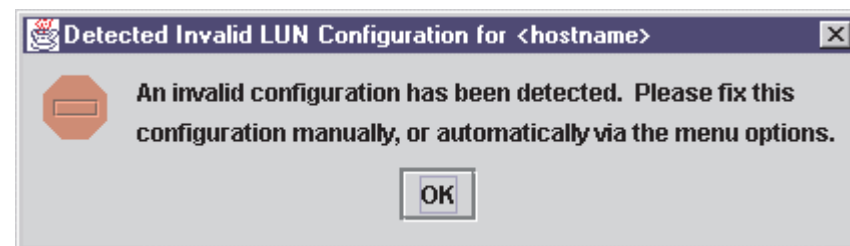

Figure 98. Detected Invalid LUN Configuration Error dialog window
- If FASTT MSJ detects an erroneous LUN configuration, the message shown in Figure 98 displays. Click **OK** to continue.Erroneous LUN configurations include: